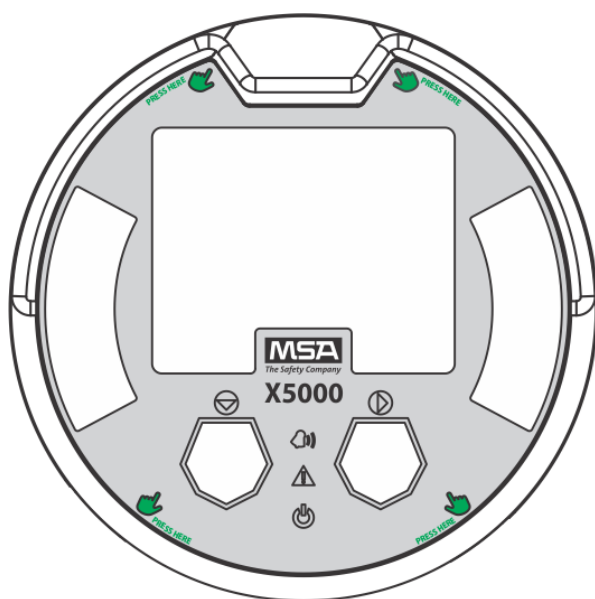

Fig. 14 Highlighted Areas Show Where to Press when Replacing a Board Stack
- (5) Verify the sensor connector is firmly seated on the terminal board.
- (6) Attach the sensor's ground to either of the grounding screws inside the ULTIMA X5000 housing.
- (7) Replace the board stack legs into the four depressions in the housing. Push firmly on the board stack where indicated (see Fig. 14).